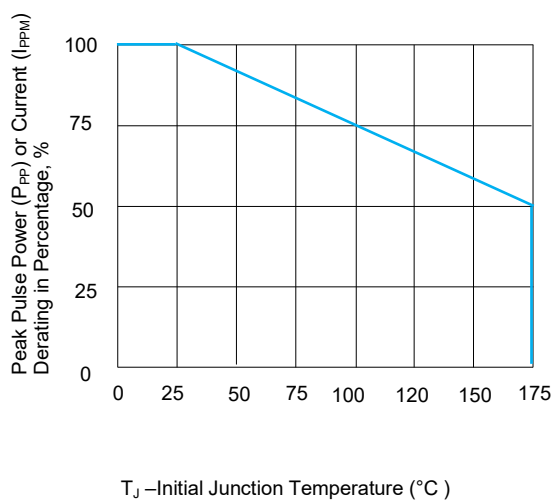
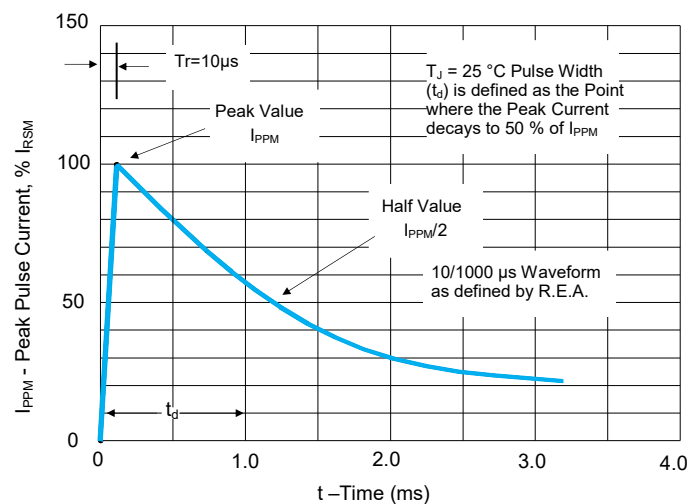

FIGURE 3 Peak Pulse Power Derating Curve
FIGURE 4 Pulse Waveform
- Non-repetitive current pulse, per Fig. 4 and derated above T_J(initial)=25 °C per Fig. 3.